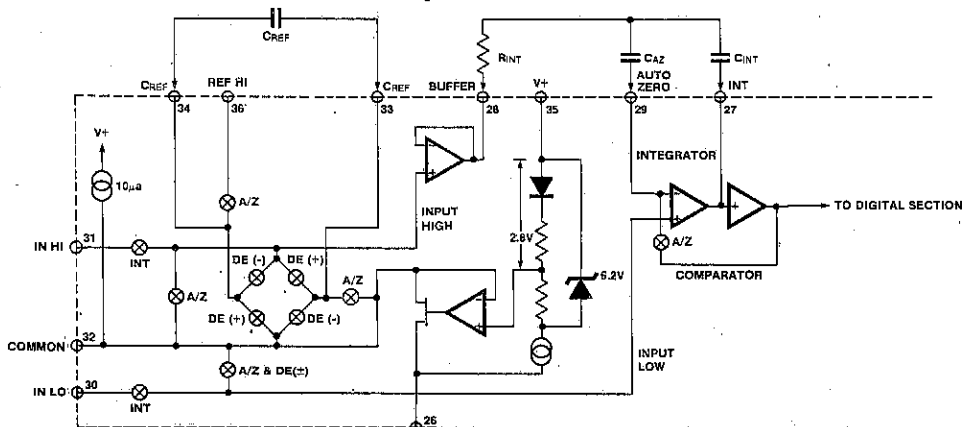

Figure 3: Analog Section of 7116/7117
Figure 3 shows the Block Diagram of the Analog Section for the ICL7116 and 7117. Each measurement cycle is divided into three phases. They are (1) auto-zero (A-Z), (2) signal integrate (INT) and (3) de-integrate (DE).